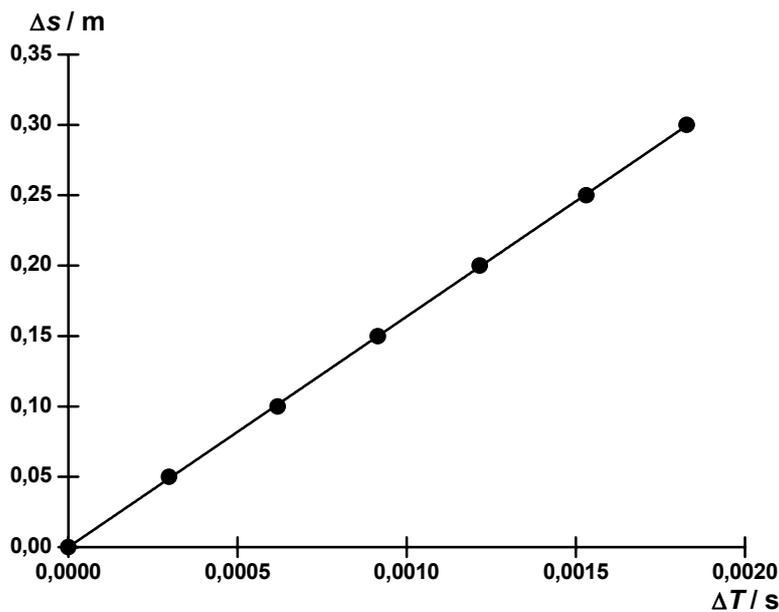

Fig. 2: Relative distances plotted as a function of time differences with a fitted straight line for determining the speed of sound in air.
- Plot the relative distances Δs against the time differences ΔT and draw a straight line which fits the measurement points (Fig. 2). Determine the speed of sound from the gradient using the following equation: